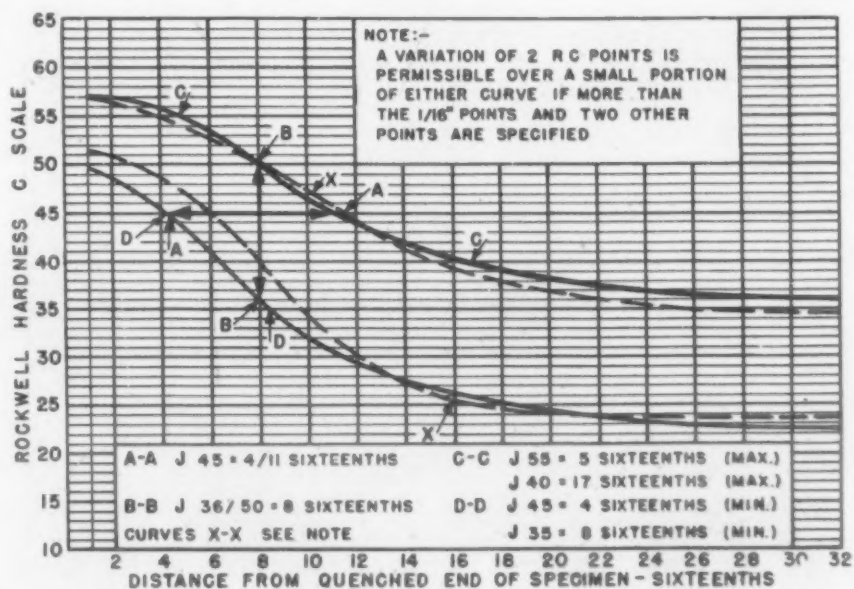

Fig. 6—Methods of specifying hardenability requirements.
is illustrated in Fig. 6 as points A-A and is commonly written  $J_{45} = 4/11$  sixteenths.
- B. The minimum and maximum hardness values at any desired distance. This method is illustrated in Fig. 6 as points B-B and is commonly written  $J_{36/50} = 8$  sixteenths. Obviously, the distance selected would be that distance on the end-quench test bar which corresponds to the section size used.
- C. Two maximum hardness values at two desired distances as shown in Fig. 6 as points C-C.
- D. Two minimum hardness values at two desired distances as shown in Fig. 6 as points D-D.
curves X in Fig. 6.
A particularly good example of the savings in fuel that may be obtained by the resistance welding method is the resistance brazing job shown in Fig. 6. The bushing in the box in the upper right hand corner was brazed by the use of two carbon electrodes mounted in a standard press welder. The amount of silver alloy was controlled by the use of a silver
**Fig. 6—Through the use of two carbon electrodes mounted in a standard press welder, the bushing in the upper box was silver brazed. Power and alloy costs were reduced over gas brazing formerly used.**